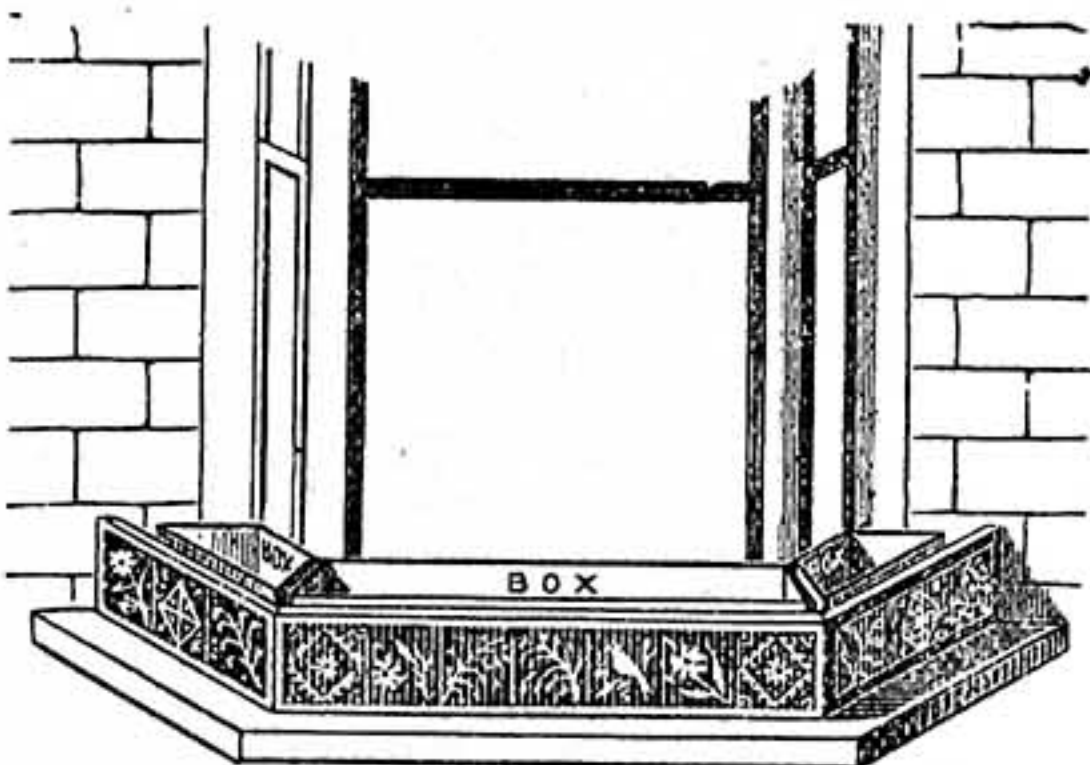
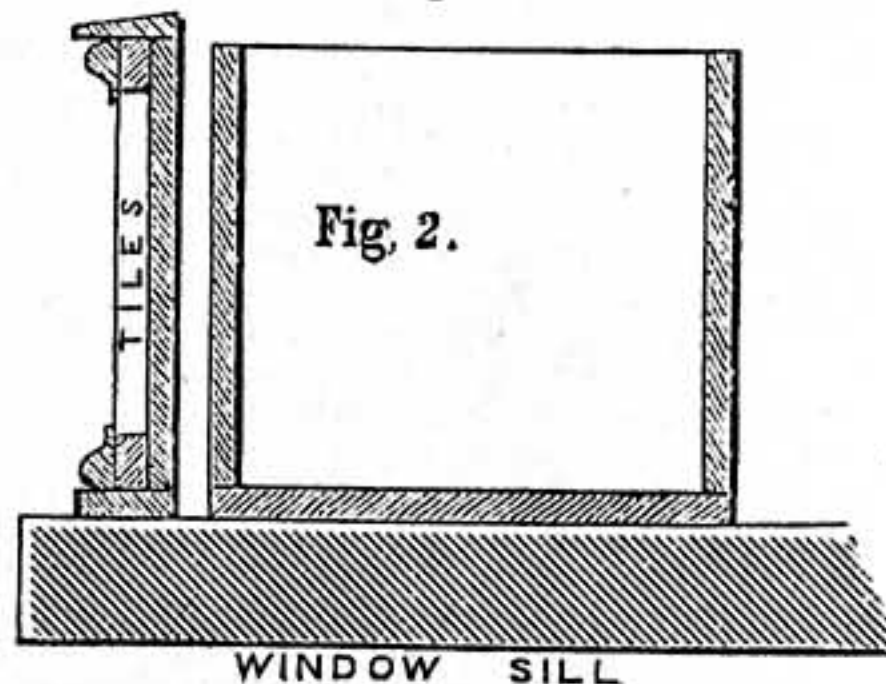
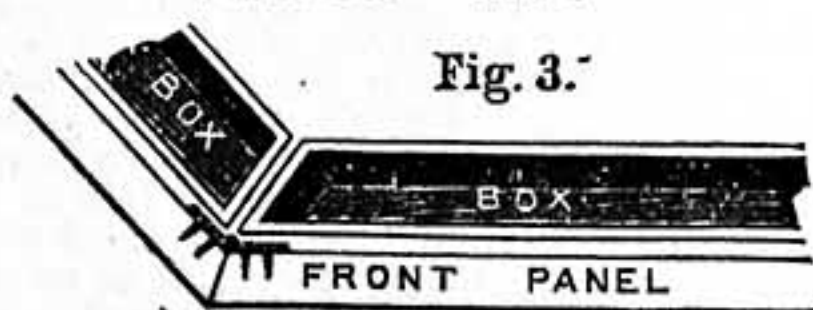

Fig. 1.
Fig. 2.
Fig. 3.
**Flower-Box for Bay Window.**—R. G. (Streat-ham Hill).—A very handsome-looking flower-box may be made for your bay window in the manner I am about to describe, and which I hope you will understand by the rough sketches given. Instead of making your flower-box in one piece as you suggest, and putting the tiles in the front of it, you will do much better to have the tiles in a separate front; it can then be lifted away from the sill when required, or the boxes can be removed for gardening operations if necessary. In Fig. 1 you have a sketch of the arrangement when in position. The front board containing the tiles should be about 2 in. back from the edge of the window-sill, and three boxes made to fit the spaces between it and the front and side windows. Fig. 2 shows a section through the front and the box. To get at the exact
by a pair of backfold engines at each joint; these hinges admit of the ends being folded flat to the front when the panelling is removed from its position, as, if rigid, it would be awkward to handle. To steady it when in its place, a hook and eye at each end may be used, the hook being on the inner side, and the eye either in the wall or on the wood-work of the window, whichever answers best. A piece of ½ in. wood runs along the bottom of the panelling, and a similar piece on the top, which is bevelled towards the front to throw off the water. Yellow deal should be used both for the front and for the boxes; the moulding you can buy ready for use at almost any timber yard. I think a few minutes' study of Fig. 2 will make the foregoing instructions clear to you, and Fig. 3 will show how the ends are meant to be hinged. The boxes should be made of ½ in. wood, and may be lined with zinc if preferred; they will, however, last a good many years without lining, and a pipe should be run from near the bottom of each out over the window-sill to carry off the drainage. Another plan is to dispense with boxes altogether. Make your front panels as described, and when in position put your flowers in pots behind them; this is a very good arrangement, as it lessens the labour involved in carpentering, and also admits of changing the plants whenever required, thus enabling you always to have a good show of flowers at your window. A number of minor details and modifications may suggest themselves to you as you proceed with the work, and if you find any difficulty write again. That drawing attached to your letter was of the utmost service in giving me an idea of exactly what you wanted, and I wish all querists would adopt a similar method (where possible) when writing to WORK for information; it would so simplify the task of answering, and tend to their getting the requisite replies. I may just add that if you still think of making three boxes, and not using a front as described, the details given for the panelling of the front will equally apply to the panelling of the boxes.—G. L. B.